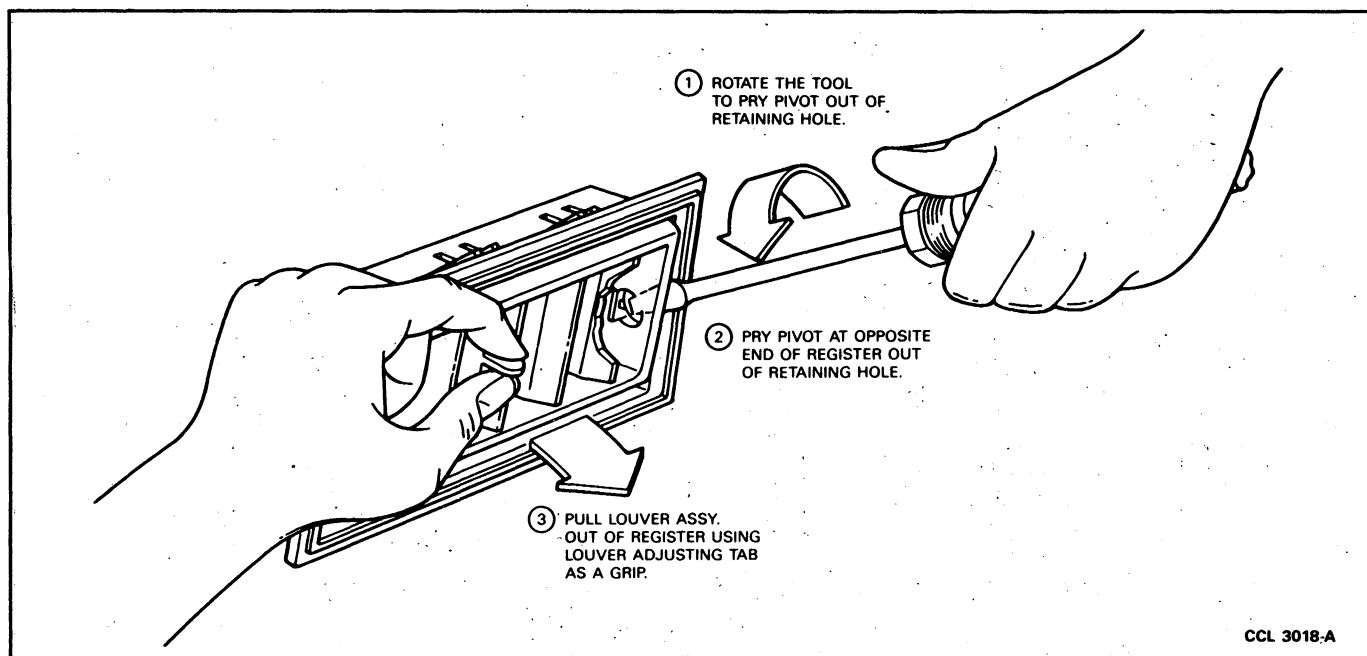

FIG. 14 Louver Removal
1. Insert a thin-blade screwdriver under the retaining tab (Fig. 14) and pry tab toward louvers until it clears the hole in register assembly.